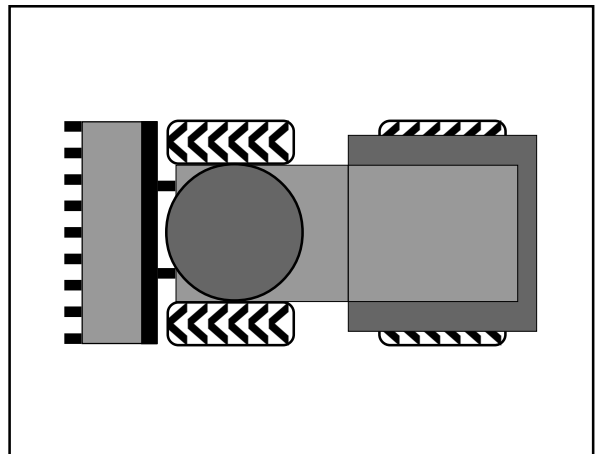

Figure 4-4
- All four tires must be the same size and have the same PR rating (PR = ply rating: number of textile plies). For the running direction, if it exists, see Fig. 4-4.